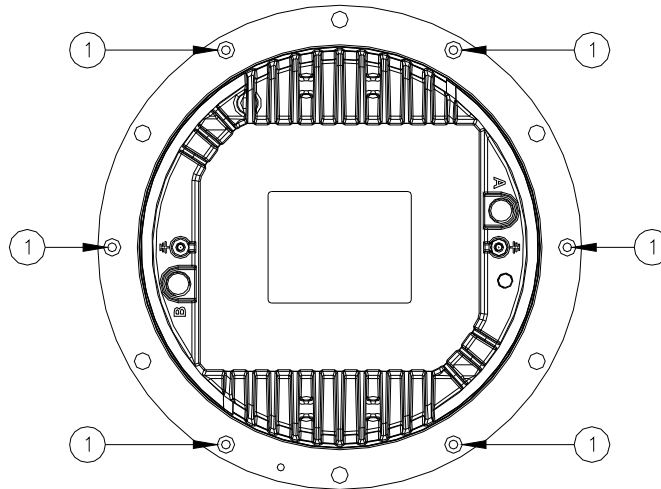

Figure 16 - Lower Cover Fixing Screws
- Open the fixture by unscrewing the six locking HSFH M5x10 screws (Figure 16 - n°1).
- six locking HSFH M5x10 screws (Figure 16 - n°1);
Verify the correct position of the two O-Ring between dome and lower cover (Figure 18 – n°2 and 3); mount the lower cover on the dome and fasten it by means the six HSFH M5x10 screws (Figure 16 - n°1). One drop of anaerobic adhesive lower type (e.g. LOXEAL 24-18) should be applied to the screws before installation; tightening torque is 18 in-lbs (2.5 Nm).